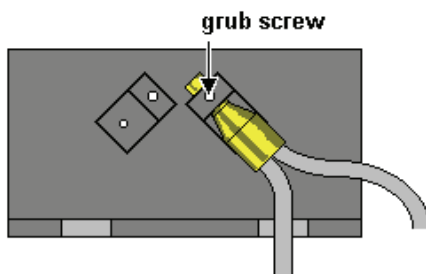

Figure 78 Right holder grub screw
5. Insert the sampling end of the fibre into the right side holder of the sample area accessory and tighten the grub screw, as shown in Figure 78.